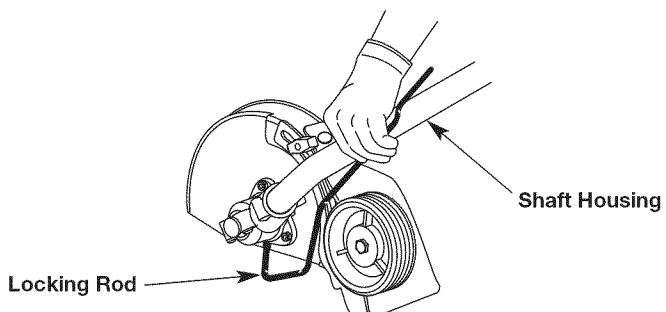

Fig. 7
2. Keep the locking rod in place by holding it next to the shaft housing (Fig. 7).
7. Keep the locking rod in place by holding it next to the shaft housing (Fig. 7).